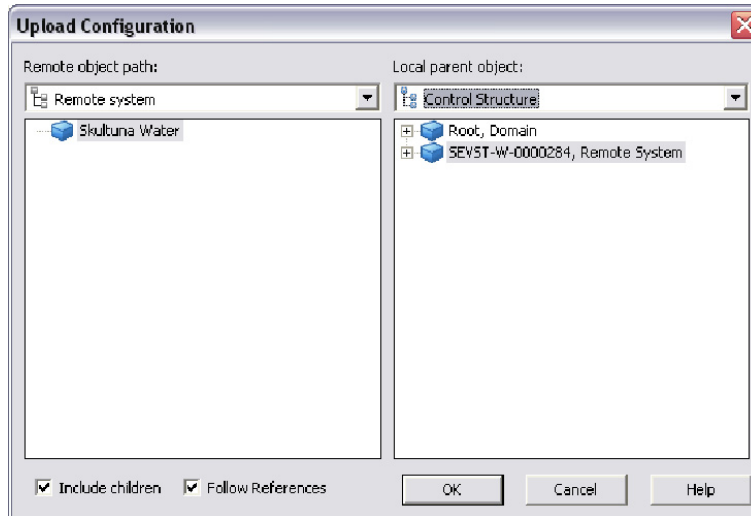
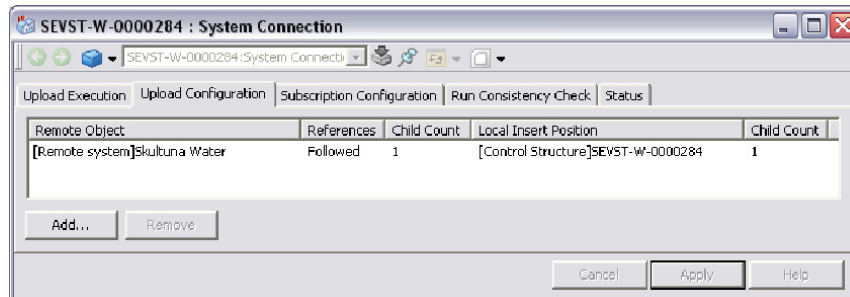

Figure 66. Upload Configuration Dialog Box
Figure 67. Upload Configuration Tab After Upload
3. Click **Add...** to add a new object or structure from the Provider. This produces an Upload Configuration dialog box similar to the one shown in Figure 66.
- d. The Include Children and Follow References configuration is shown in the **Upload Configuration** tab after an upload (Figure 67).
6. The **Upload Configuration** tab (Figure 67) shows how the upload is configured. The References field will show `Followed` if the **Follow References** check box was selected in the Upload Configuration dialog box (Figure 66). The Child Count will show the number of children uploaded if the **Include Children** check box was selected in the Upload Configuration dialog box. If it was cleared, this field shows a dash.